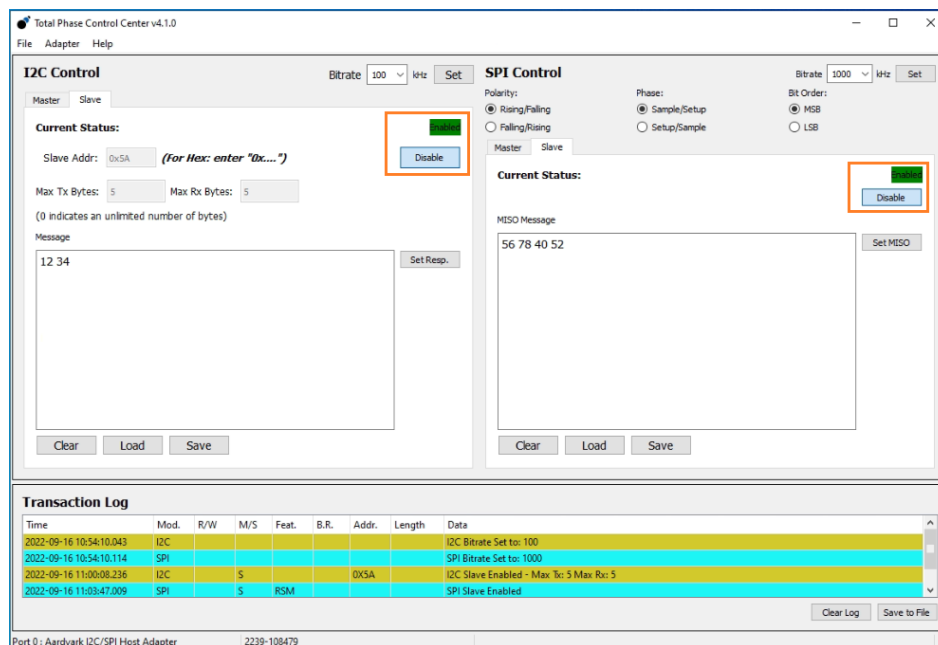

Figure 7.53. Total Phase - I2C and SPI Control Enabled
9. Once Enabled both I2C and SPI control, the display looks like Figure 7.53 and the connection status shows in the transaction log.